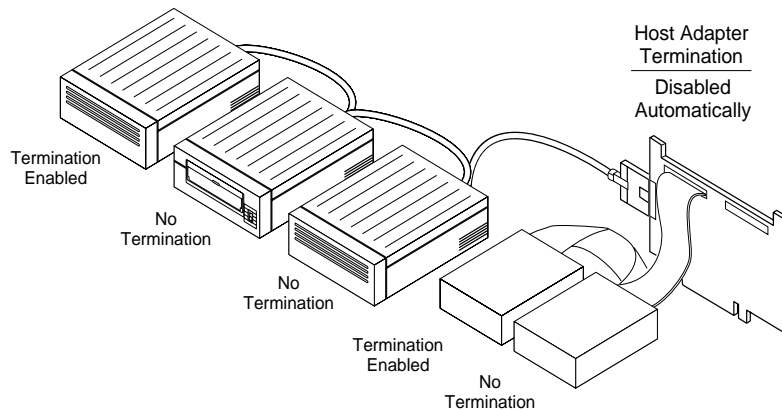

Figure 2-13. Internal and External Devices on SCSI Channel A
- If you attach SCSI devices to both internal and external connectors, as shown in Figure 2-13, host adapter termination is automatically *Disabled*. In this configuration, the host adapter is in the middle of the SCSI bus.